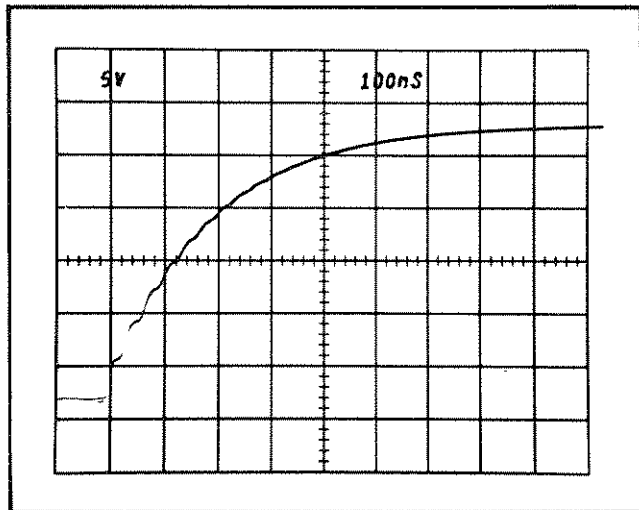

Fig. 2-11. Measuring risetime.
8. Adjust the horizontal POSITION control to move the 10% point of the waveform to the second vertical line of the graticule. For example, with a five-division display as shown in Fig. 2-11, the 10% point is 0.5 division up from the start of the rising portion.
**Example.** Assume that the horizontal distance between the 10% and 90% points is four divisions (see Fig. 2-11) and